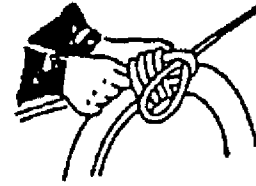

Fig. 3-56-6
- f. Pull the starting end to tighten. (Fig. 3-56-6)